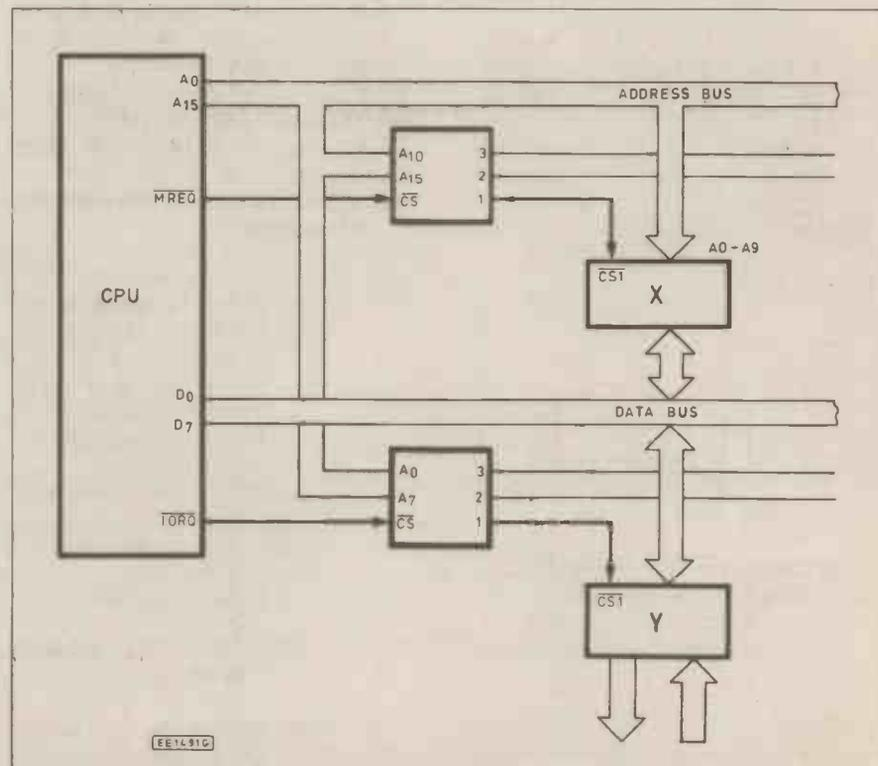

Fig. 9.6. See question 16.
16. (4.1.3) In the system shown in Fig. 9.6,